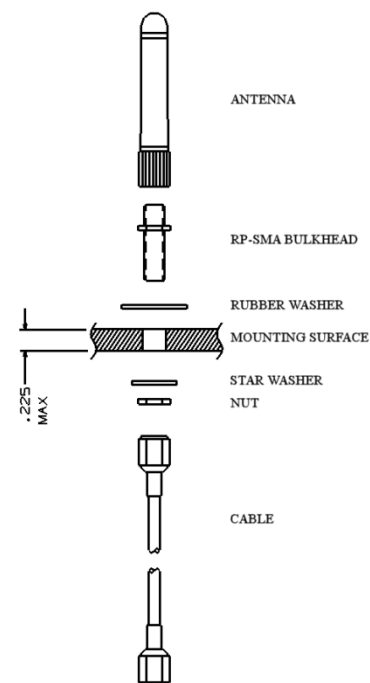

Figure 4: Antenna cable mounting
4. Attach the antenna to the IFM. For fixture installations, an antenna extension cable may be required. Drill a 1/4" hole in the fixture for the antenna cable. Connect one end of cable to device. Route cable to antenna mounting hole and connect according to cable mounting diagram (See Fig. 4).